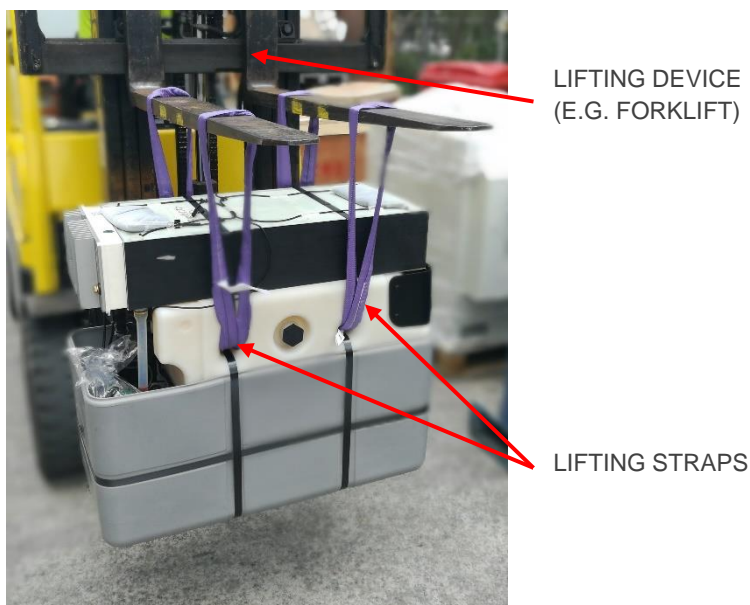

Figure 18: Lifting the ZBM
- STEP 2** Using a suitable lifting device (as shown in Figure 18), place the ZBM into the prepared location. Ensure care is taken to avoid excessive force or damage to the ZBM during movement and when placing the ZBM on to the prepared location.